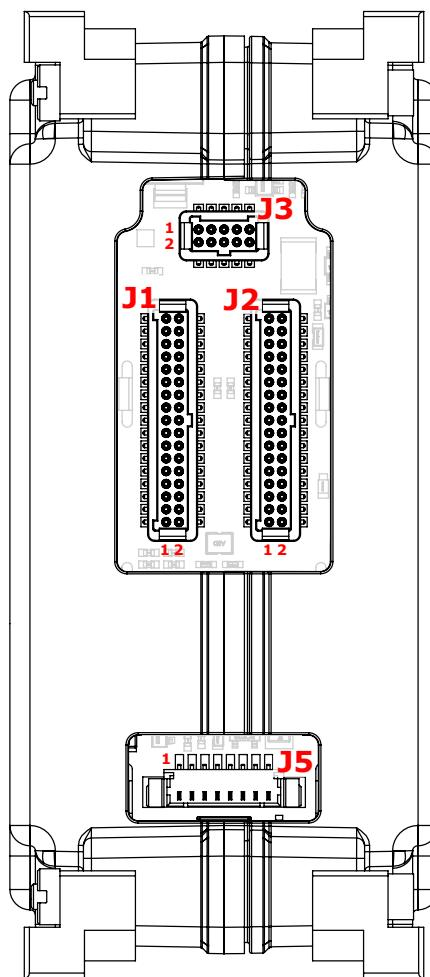

Figure 3.1: Placement of connector J1, J2, J3 and J5
The connector positions and pinouts are covered in this chapter. Figure 3.1 illustrates the connector positions on BP8.
**⚠ CAUTION:** It must be noted that pin numbering arrangement of Figure 3.1 differ from the pin numbering arrangement given by Harwin. Special care must be taken when making and assembling harnesses.